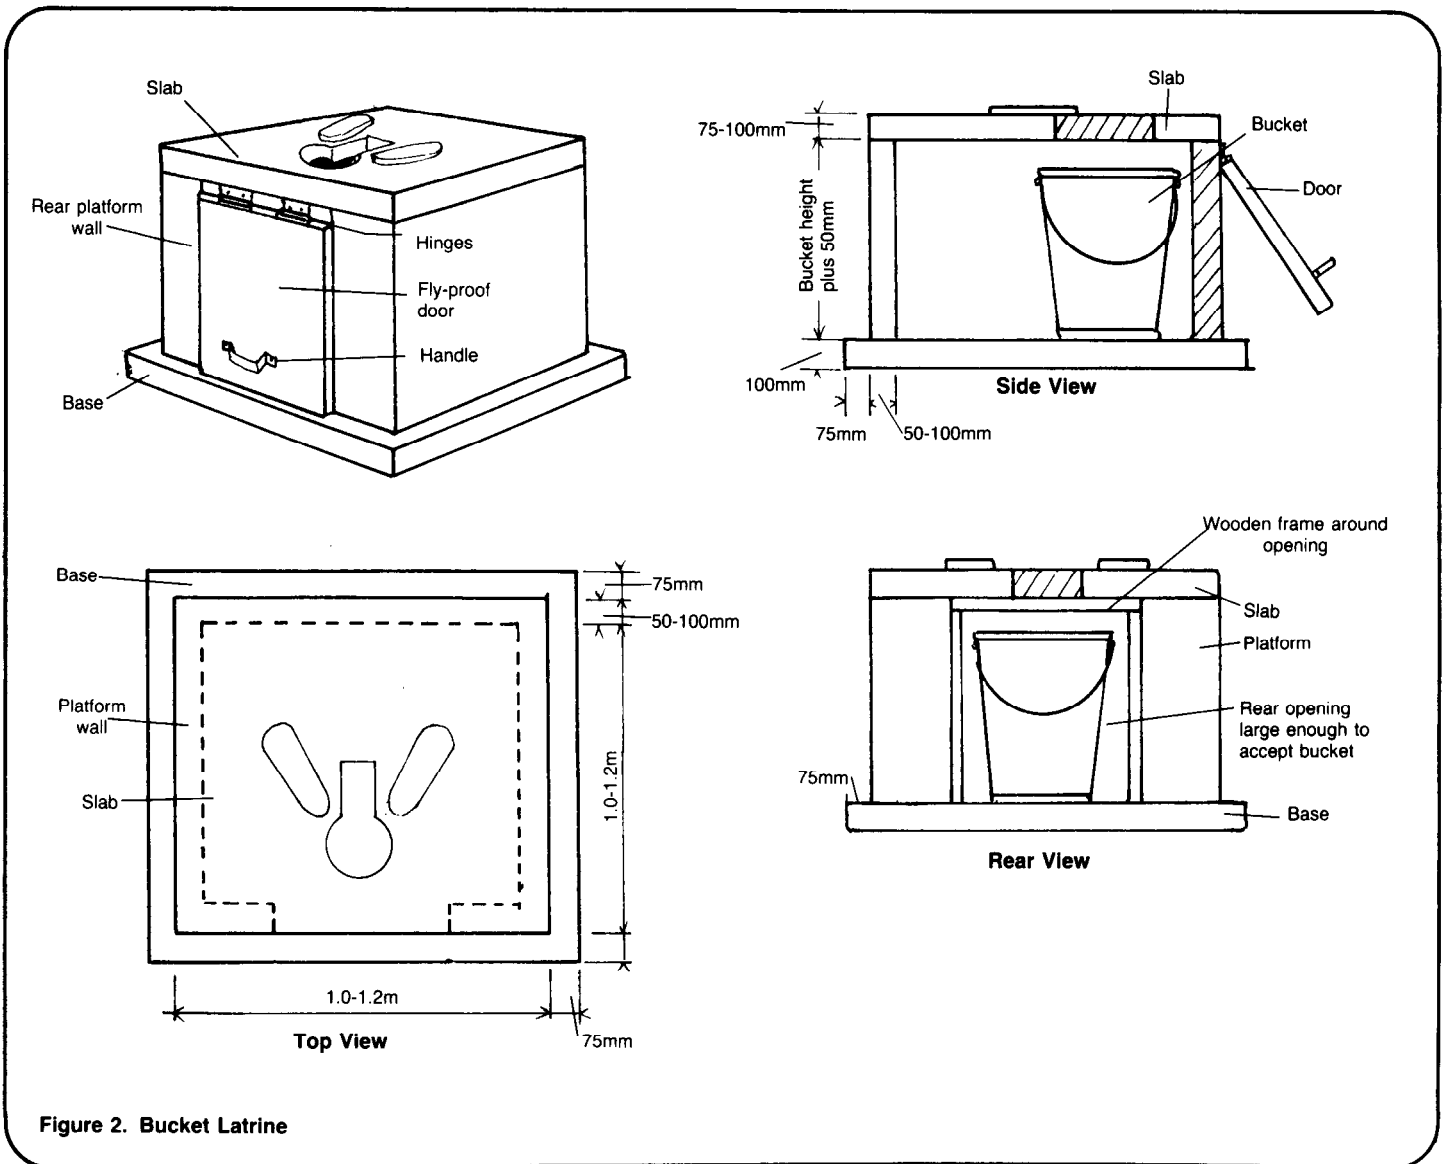

Figure 2. Bucket Latrine
2. Design drawings similar to Figure 2.